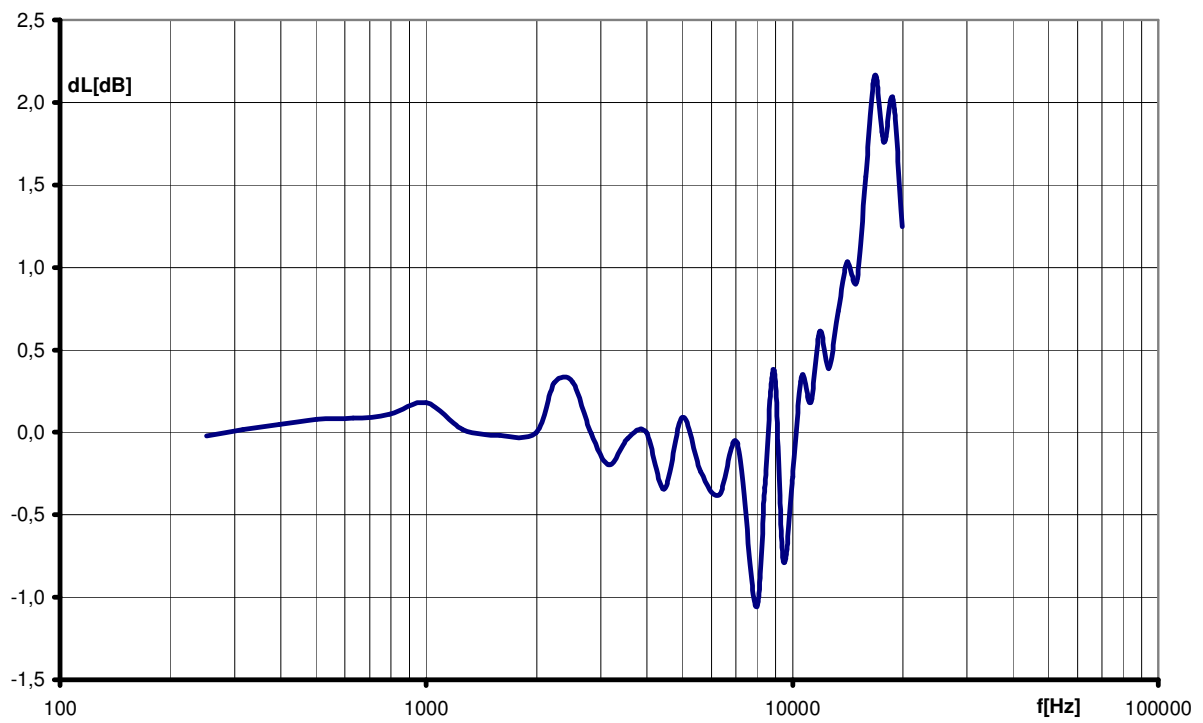

Fig. 1.10. Influence of weatherproof screen.
- Influence of weatherproof screen (for 0° incidence) See table below and Fig. 1.10.